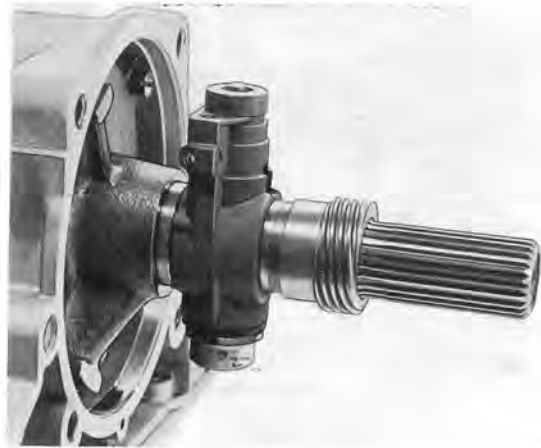

Fig. 4-117. Installing speedometer gear
21. Place the speedometer gear correctly on the driven shaft as shown in Fig. 4-117. Fit the extension housing with a new gasket and fit the drive flange with washer and nut.